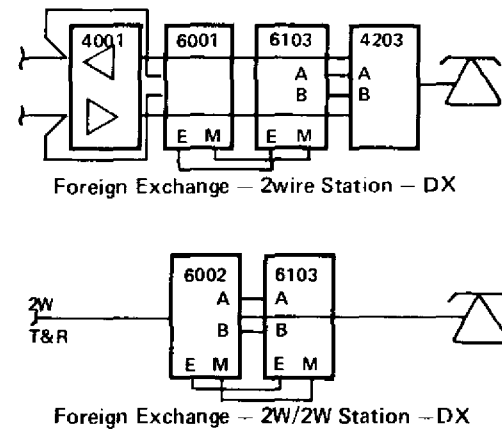

figure 3. Typical DX applications with 2wire and 4wire facility terminations
2.09 In 4wire DX applications, a facility-interface device (normally, a Tellabs 400X Line Amplifier or 4411A Pad/Transformer module) must be used to derive the simplex (SX) leads used as inputs from the facility to the 6001 DX module. In 2wire DX applications, a separate facility-interface device is not required because a repeat coil is integral to the 6002 DX module. Figure 3 shows typical FXS DX signaling and terminating circuit arrangements. For detailed information on the modules other than the 6103 shown in figure 3, please refer to their individual Tellabs practices.